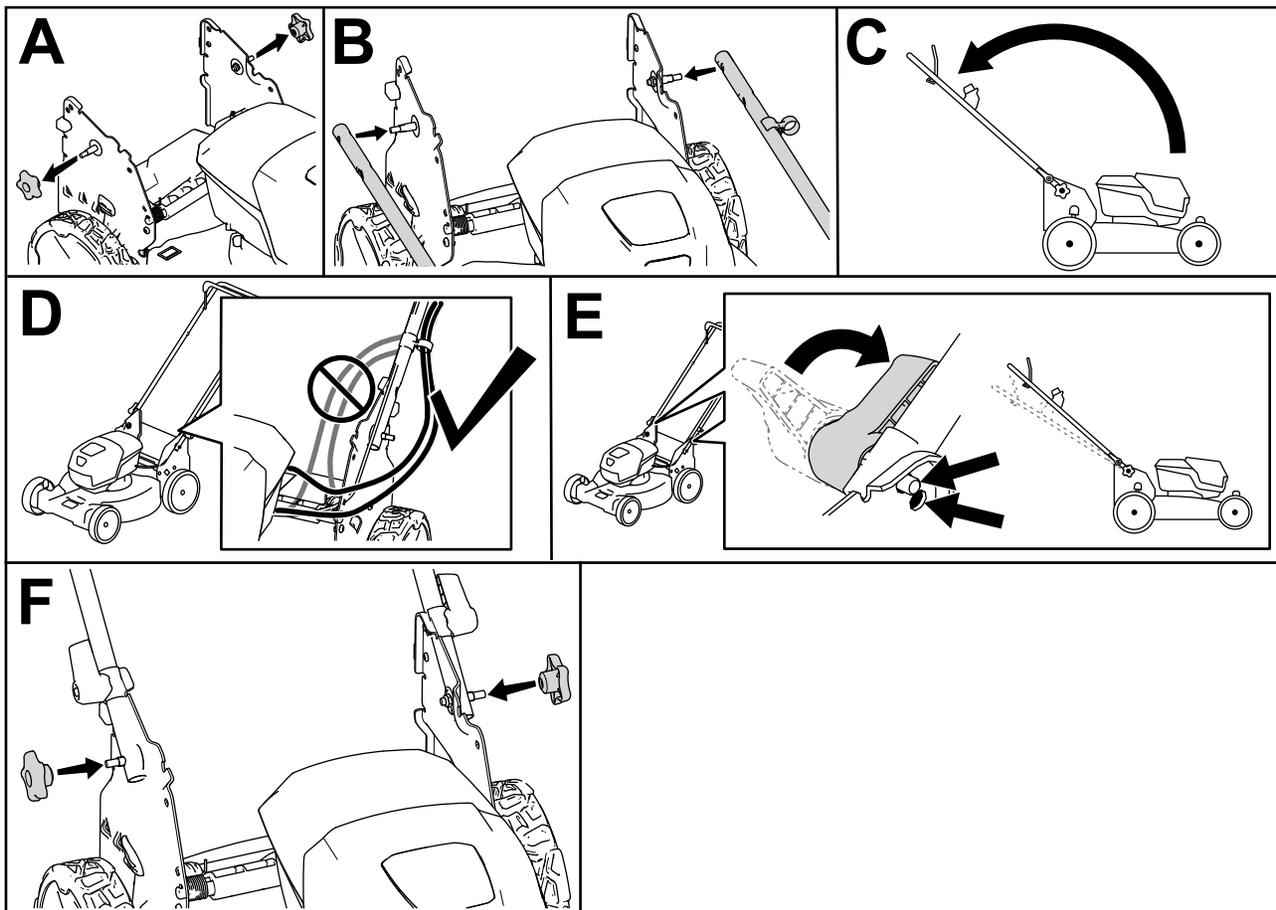

Figure 4
1. Remove the handle knobs (A of Figure 4).
2. Using the holes at the ends of the handle, attach the handle to the machine (B of Figure 4).
3. Move the handle rearward to the operating position (C of Figure 4).
4. Ensure that the cables are routed to the outside of the handle (D of Figure 4).
5. Engage the handle locks until the pin clicks in place to lock the handle into the operating position (E of Figure 4).
6. Secure the knobs to the handle bolts to secure the handle (F of Figure 4).